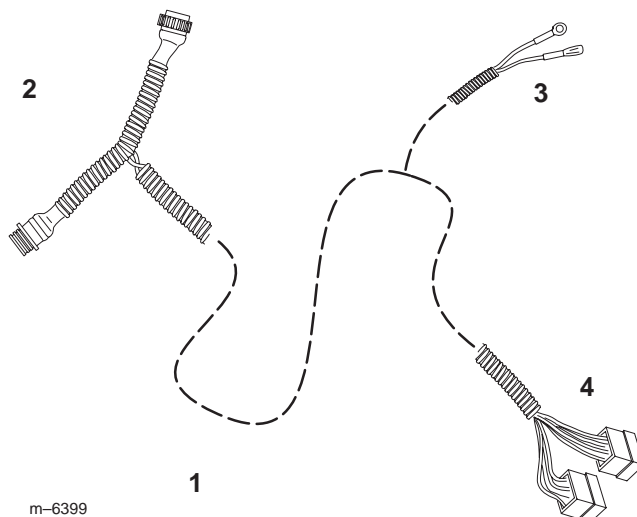

Figure 22
10. Connect the middle lead with the spade connector to the open lead on the fuse box under the driver's seat (Fig. 22 and 25).